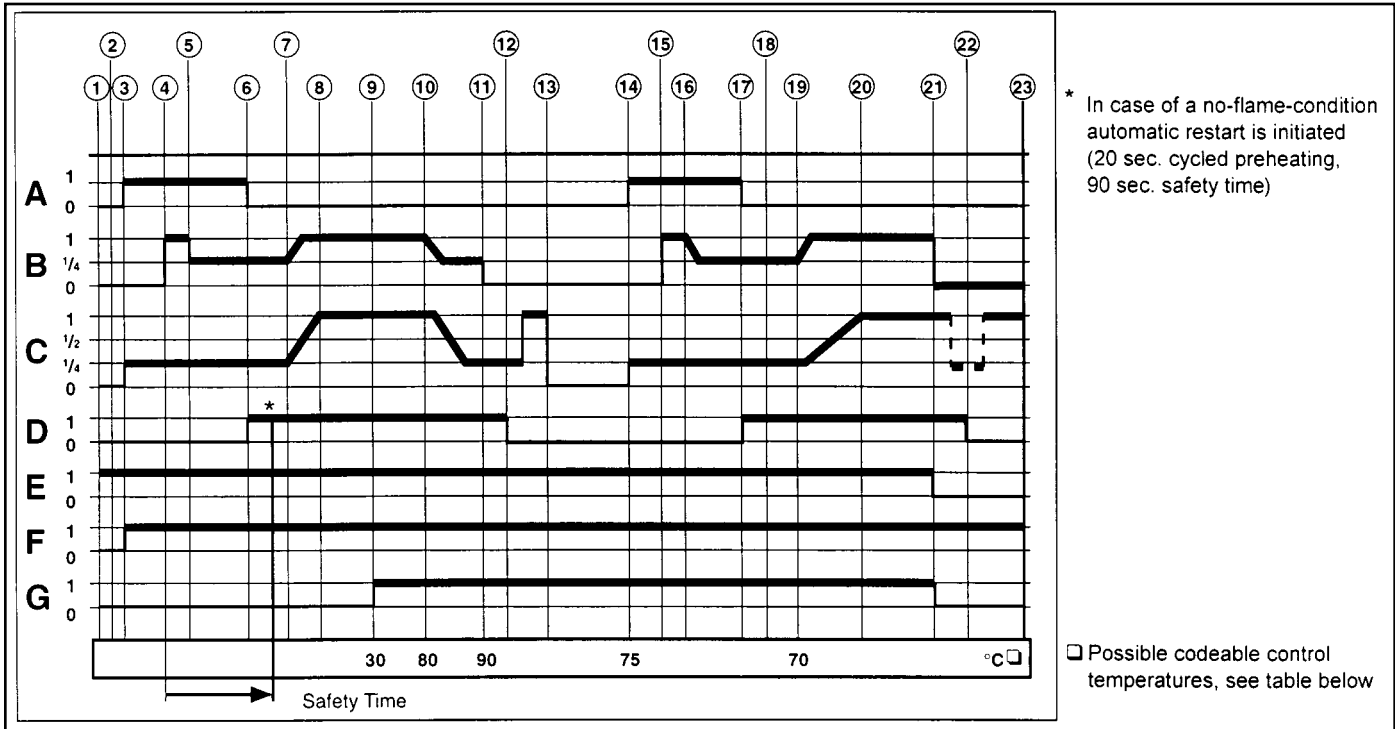

Fig. 3-1 Functional Sequence
3. Functional Description (Fig. 3-1)